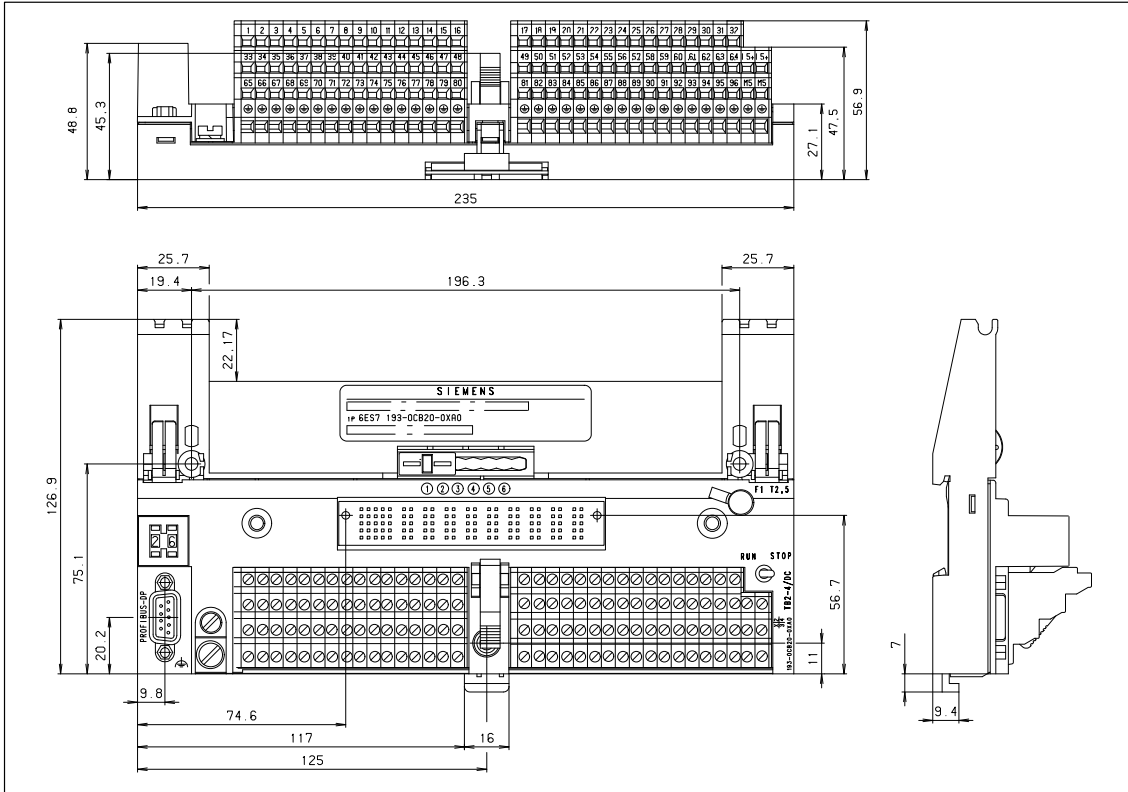

Figure 7-9 Dimensional Drawing: Terminal Block TB2-4/DC (Screw-Type Terminal, 4-Tier)
**Dimensional Drawing** Figure 7-9 is a dimensional drawing of the TB2-4/DC (screw-type terminal, 4-tier).